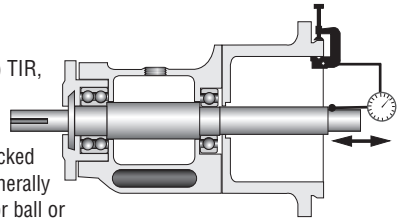

Figure 2
**Shaft endplay** should not exceed 0.25 mm (0.010 inch) TIR, regardless of thrust bearing type. See Figure 2.